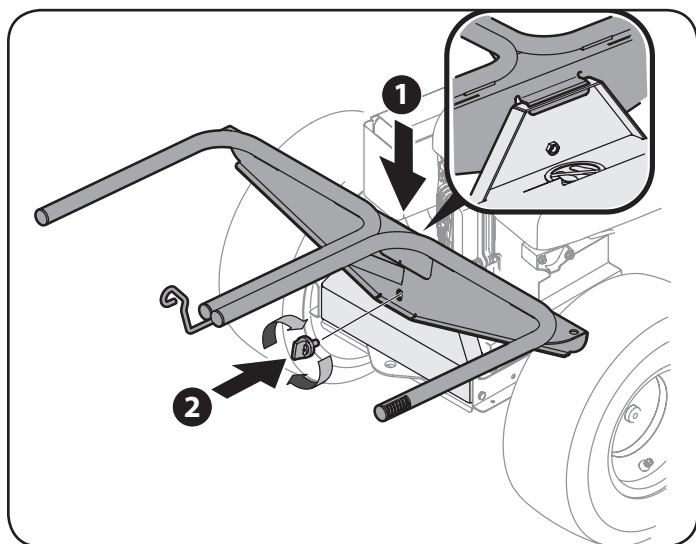

Figure 5
3. Install the grass-bag mounting assembly onto the bagger mounting bracket by lowering it down (1) and fitting the assembly into the slot provided in the mounting bracket. See the Inset in Figure 5.
4. Secure the grass-bag mounting assembly to the bagger mounting bracket using the attachment knob (720-04061) found in the hardware pack (683-05147). See (2) in Figure 5.